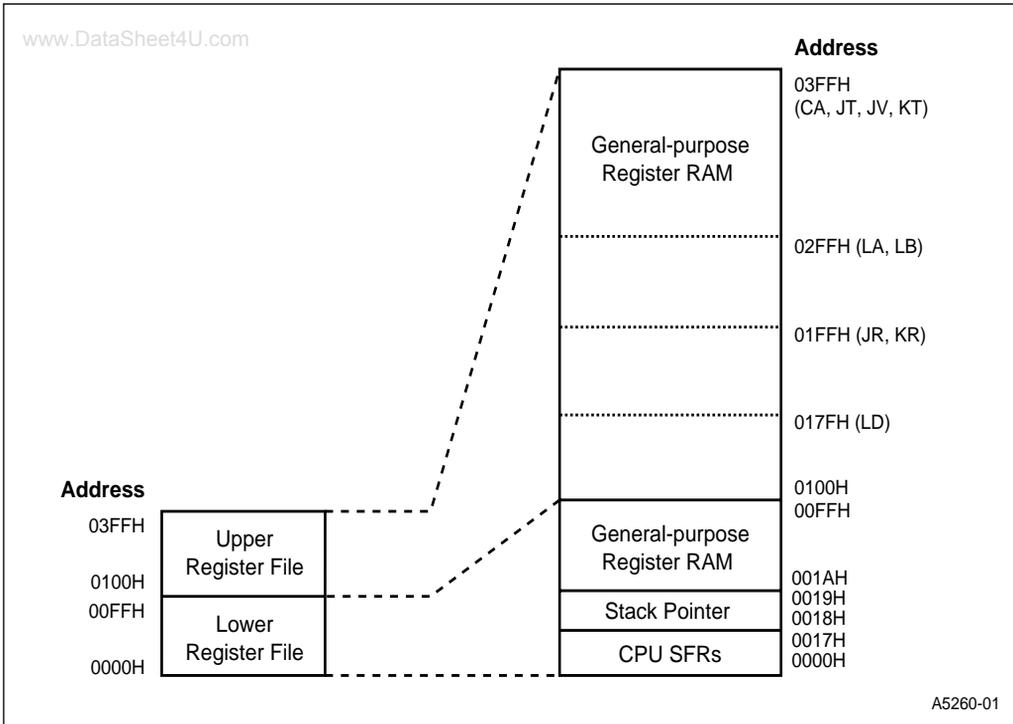

Figure 3-1. Register File Address Map
Figure 3-1 compares the register file addresses of the 8XC196Lx and 8XC196Kx. The register file in Figure 3-1 is divided into an upper register file and a lower register file. The upper register file consists of general-purpose register RAM. The lower register file contains general-purpose register RAM along with the stack pointer (SP) and the CPU special-function registers (SFRs).